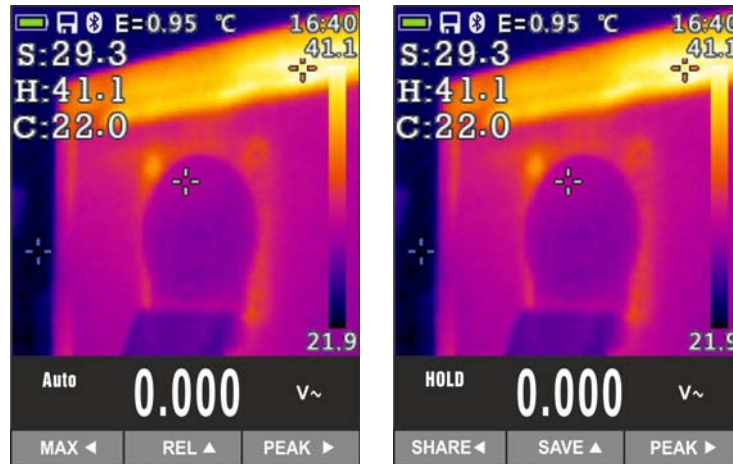

Fig. 41: Saving IR images
9. Press key **HOLD/ESC** to freeze the result. Message “HOLD” appears on the display and key **REL ▲** becomes **SAVE ▲** (see Fig. 41 – right side).